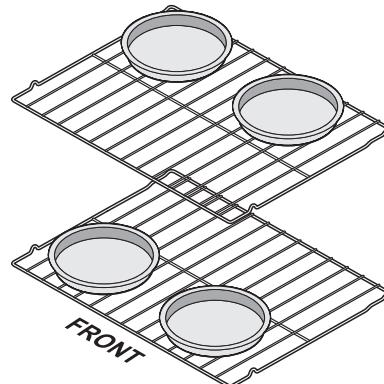

Figure 16: Suggested pan placement for best results when baking with multiple pans on two racks.
- When baking cakes using two oven racks place bakeware in positions 3 and 5 and place bakeware as shown in Figure 16.